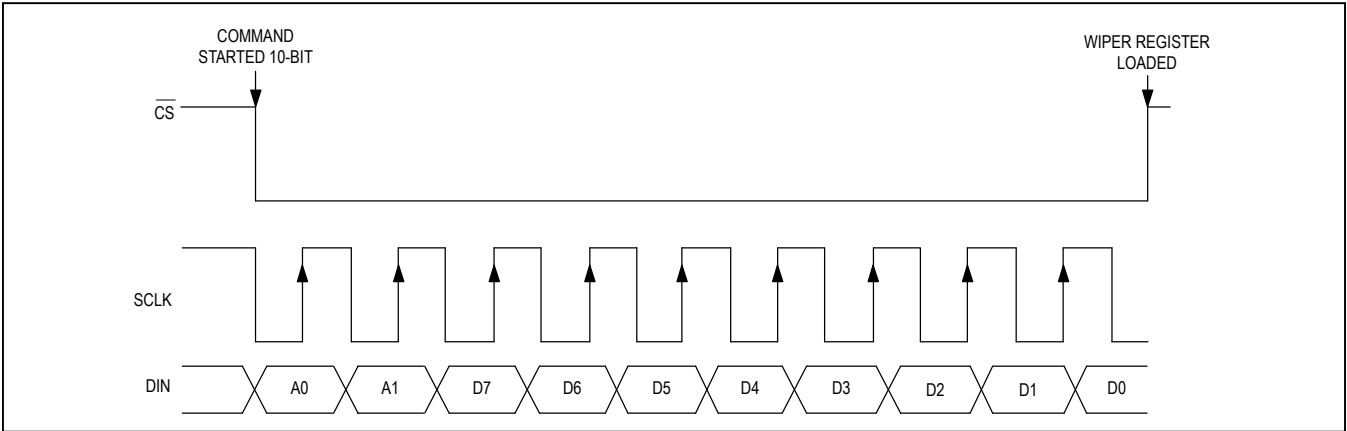

Figure 2. SPI Digital Interface Format
The MAX5391/MAX5393 include a SPI interface that provides a 3-wire write-only serial-data interface to control the wiper tap position through inputs chip select (CS), data in (DIN), and data clock (SCLK). Drive CS low to load data from DIN synchronously into the serial shift register on the rising edge of each SCLK pulse. The MAX5391/MAX5393 load the last 10 bits of clocked data into the appropriate potentiometer control register once CS transitions high. See Figures 2 and 3. Data written to a memory register immediately updates the wiper position. Keep CS low during the entire data stream to prevent the data from being terminated.